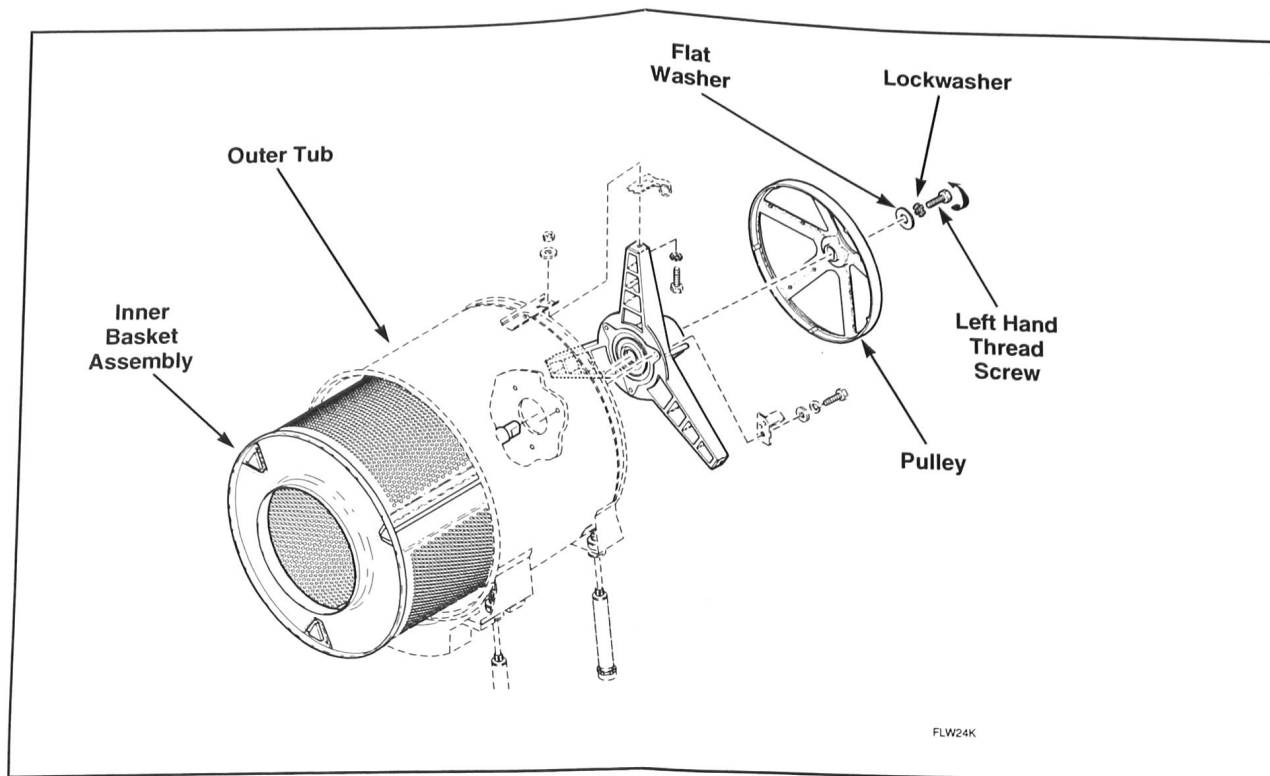

Figure 1
2. Install pulley, flat washer, lockwasher and left hand thread screw. Refer to *Figure 1*.